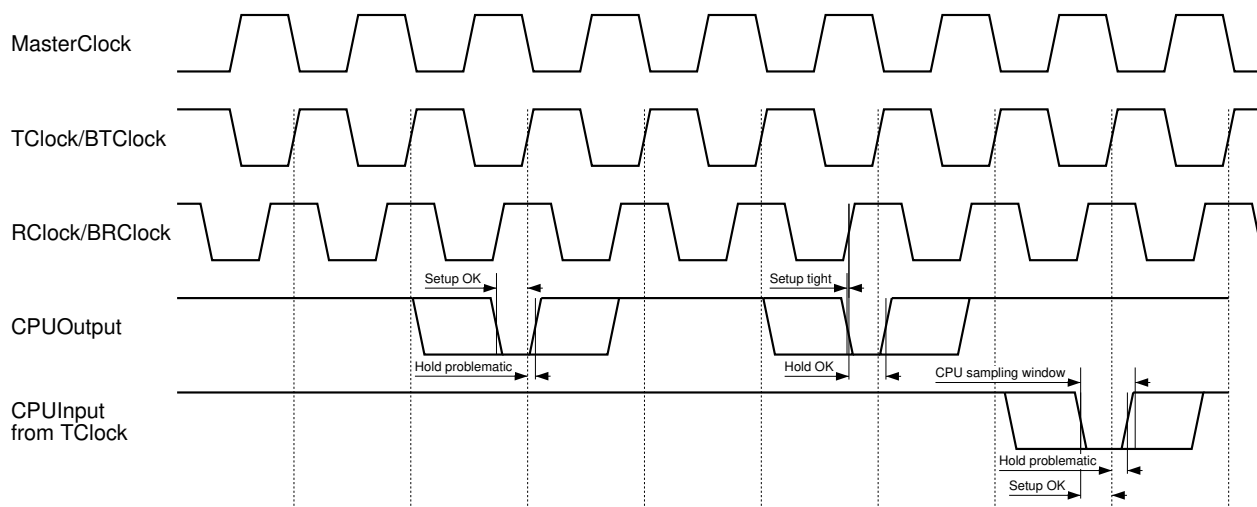

Figure 4.2 Timing relationships between clocks, inputs and outputs
Consider the picture Figure 4.2.
- *Setup time*: it is immediately apparent from Figure 4.2 that getting a signal valid in time for the start of the window is a simple matter of ensuring that the clock-to-output performance of the device generating the signal is fast enough for the chosen interface clock rate. This is not a problem; you can use 15ns devices even at 50Mhz.
As shown in Figure 4.2, setup time to *TClock* is usually adequate. But take care; the output timings depend on the *output buffer di/dt control mechanism*, whose parameters are set up at reset-time initialisation.